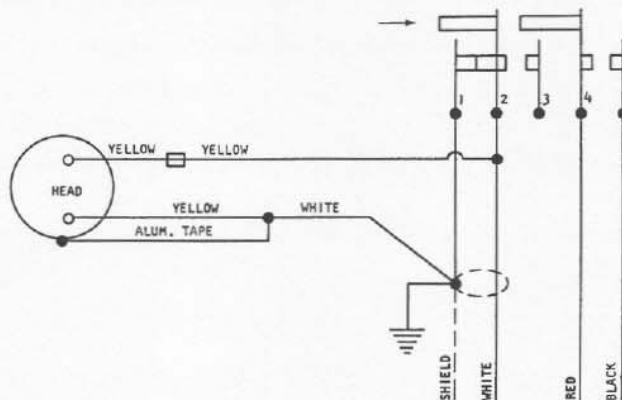
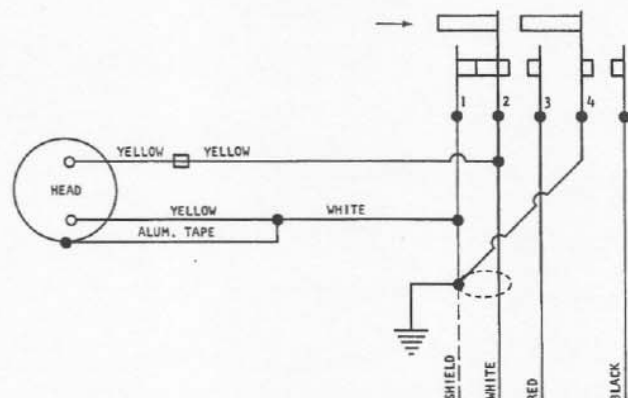

Figure 2- Wiring, relay operation
Figure 3- Wiring, electronic switching
A. The model 619KK is shipped with switch connected as shown in Figure 2 with red and black cable conductors connected to switch terminals #4 and #5 respectively, for operation of an external relay. To revise connections for electronic switching, perform the following steps. (See Figure 3 )